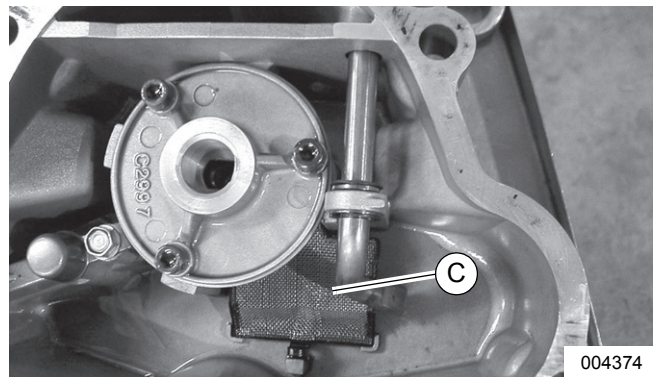

Figure 13-8. Rotating Governor Shaft
2. See Figure 13-8. Rotate governor shaft counterclockwise so paddle (C) rests against oil pump pick-up.